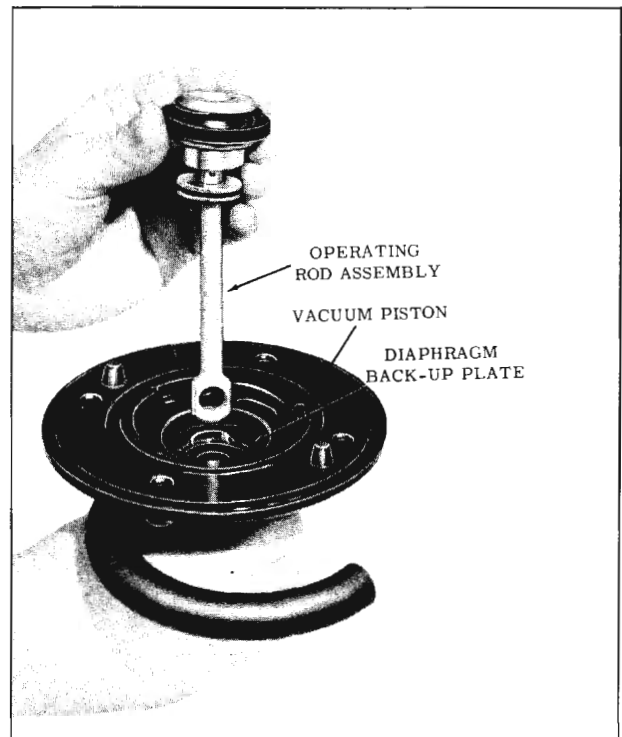

Fig. 7-24 Installing Operating Rod Assembly
12. Insert the operating rod assembly into the vacuum piston. (Fig. 7-24) Depress the end of the air valve until it seats firmly in the vacuum piston.